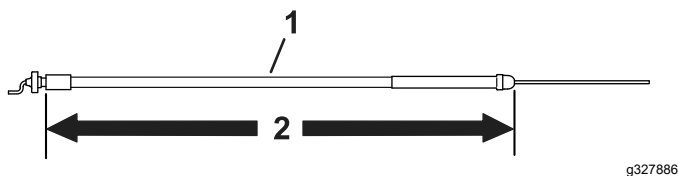

Figure 8
- Use the throttle cable that is 172.2 cm (67-13/16 inches) long for a model 04035, 04037, 04056, or 04060 traction unit; refer to Figure 8.